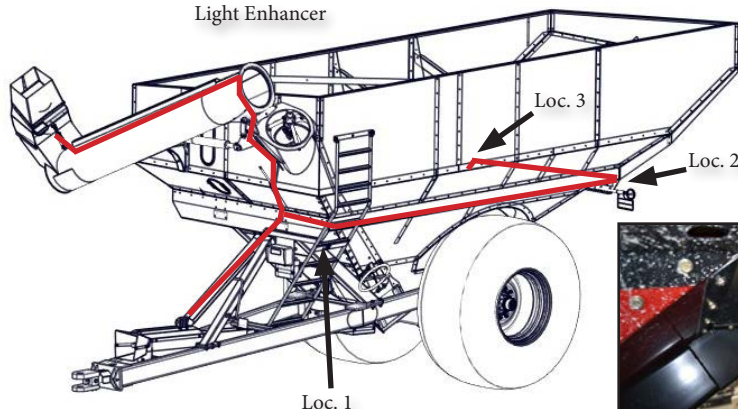

Fig. 65
- Install the light harness. Figure 65